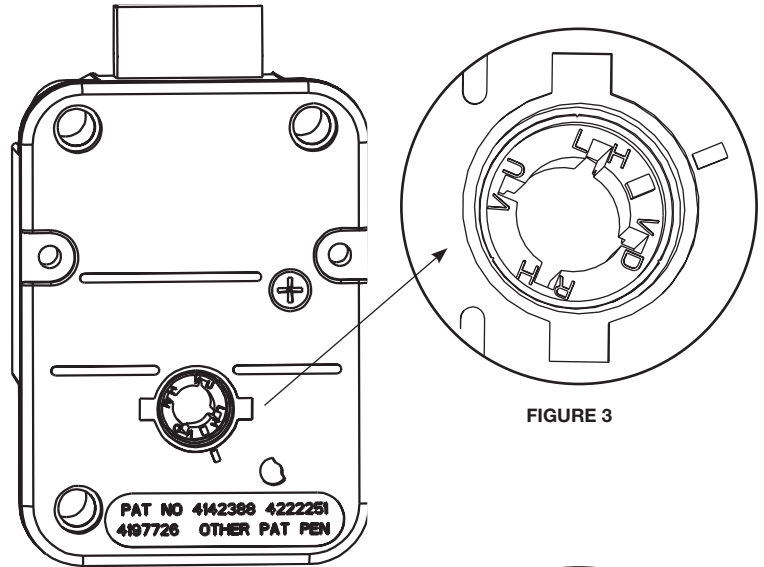

FIGURE 3
5. Insert the spindle through the spindle hole of the door. With the bolt retracted, carefully thread (clockwise) the spindle into the drive cam until tight. Next, rotate (counterclockwise) at least 1/2 turn until the groove in the spindle is aligned with the correct spline position. (Refer to the Spline Key Position Chart - see **Figure 3**.)
2. You will need to align the mark on the drive cam to the one on the back cover. **See Figure 3**.